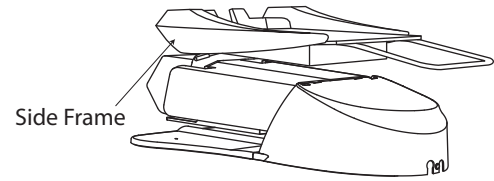

Fig 4-1-3
- 3) Lift chair base from pallet into the installation location. Be sure to lift chair under the side frame. (See Fig 4-1-3)